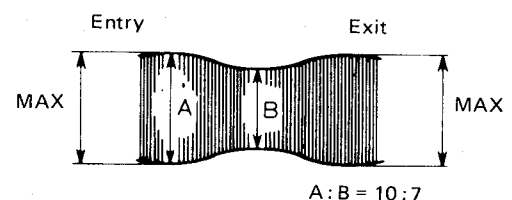

Figure 31
5. Adjust so that when the tracking control is shifted (when the tracking control is moved and A of the RF waveform begins to decline), the ratio between A and B in Figure 31 is better than  $A:B = 10:7$ .